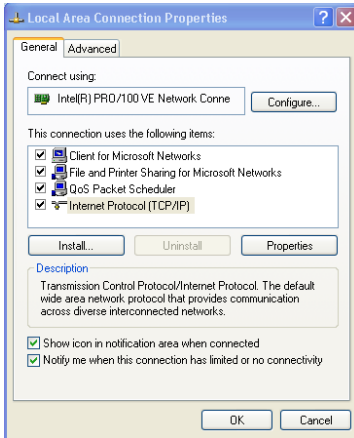

Figure 34: Local Area Connection Properties Window
5. Select the Internet Protocol (TCP/IP) and click the **Properties** Button (see Figure 34).